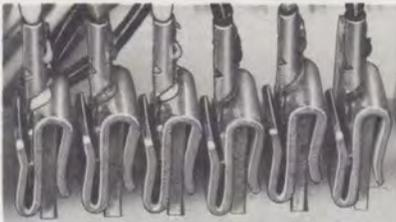

Fig. 12—Typical Installation of 161A Adapter on 66E-Type Connecting Block
4.02 Position the adapter over the terminal and press it onto the terminal as far as possible. Insert the spade tip and seat it firmly in the adapter. Fig. 12 shows the adapter and spade tip installed.
4.03 When 161A adapters are used on adjacent connectors, the adapters should be oriented so that possible shorting between connectors is avoided. Fig. 12 shows proper and improper orientation of the adapters. On the 66B connecting blocks with 3-terminal connectors, adapters should not be installed adjacent to each other on the middle two terminals due to the possibility of shorting the two individual 3-terminal sections of the row.